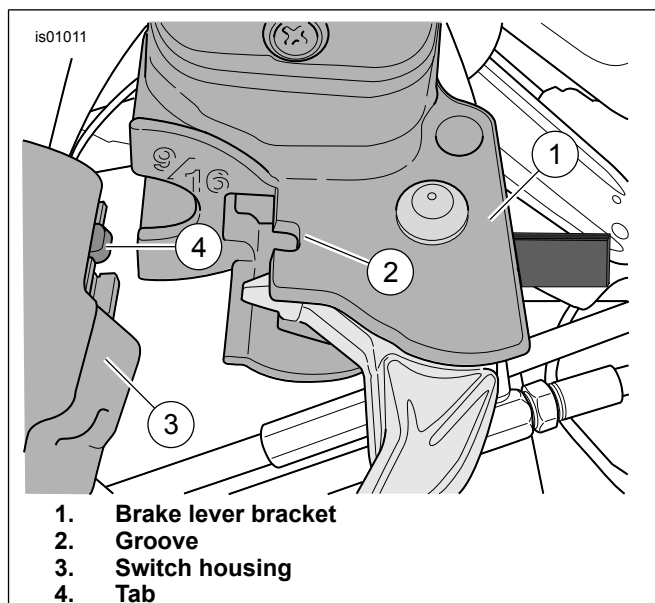

Figure 5. Brake Lever Bracket to Switch Housing
3. See Figure 5. Position the brake lever/master cylinder assembly inboard of the switch housing (3) engaging the tab (4) on the lower switch housing in the groove (2) at the top of the brake lever bracket (1).